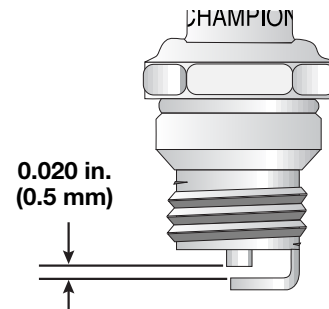

Fig. 39
3. Replace a cracked, fouled or dirty spark plug. Set the air gap at **0.020 in. (0.5 mm)** using a feeler gauge (Fig. 39).